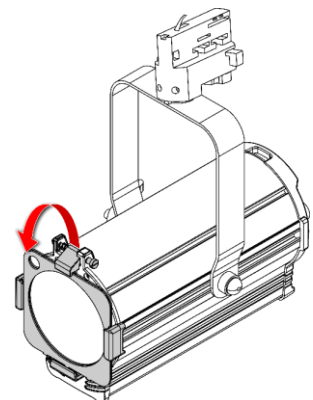

Fig. 18
- 04) Pull the **color frame clip (08)** downwards to release the **spring-loaded screw (09)** (see Fig. 18). The color frame will be locked in position.